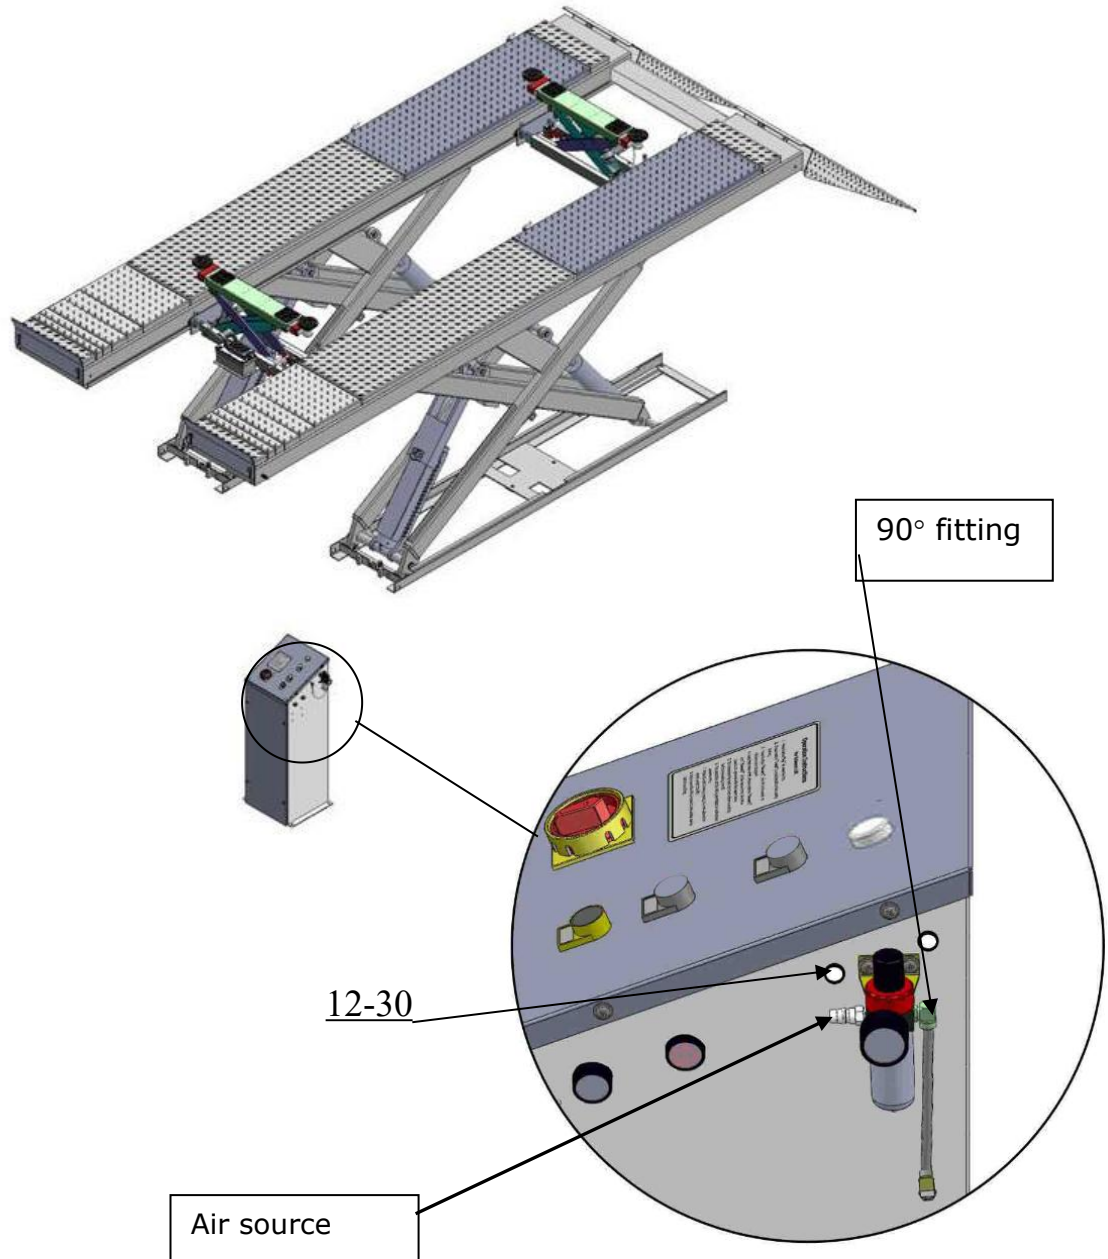

Fig. 38
H. Illustration of installing the PX12/PX12A optional air line kits(Fig.38)